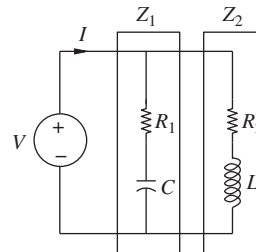

Figure P5.23 Parallel combination of R , L , and C for problem P5-23.
- 5-23.** The circuit shown in Fig. P5.23 consists of parallel combinations of R , L , and C with impedances Z_1 and Z_2 . One parallel branch consists of a resistor R_1 and a capacitor C and the other branch consists of a resistor R_2 and an inductor L . The impedance of the inductor is $Z_L = j\omega L$ and the impedance of the capacitor is $Z_C = 1/(j\omega C)$. Suppose $L = 100 \text{ mH}$, $C = 20 \mu\text{F}$, and $\omega = 500 \text{ rad/s}$.